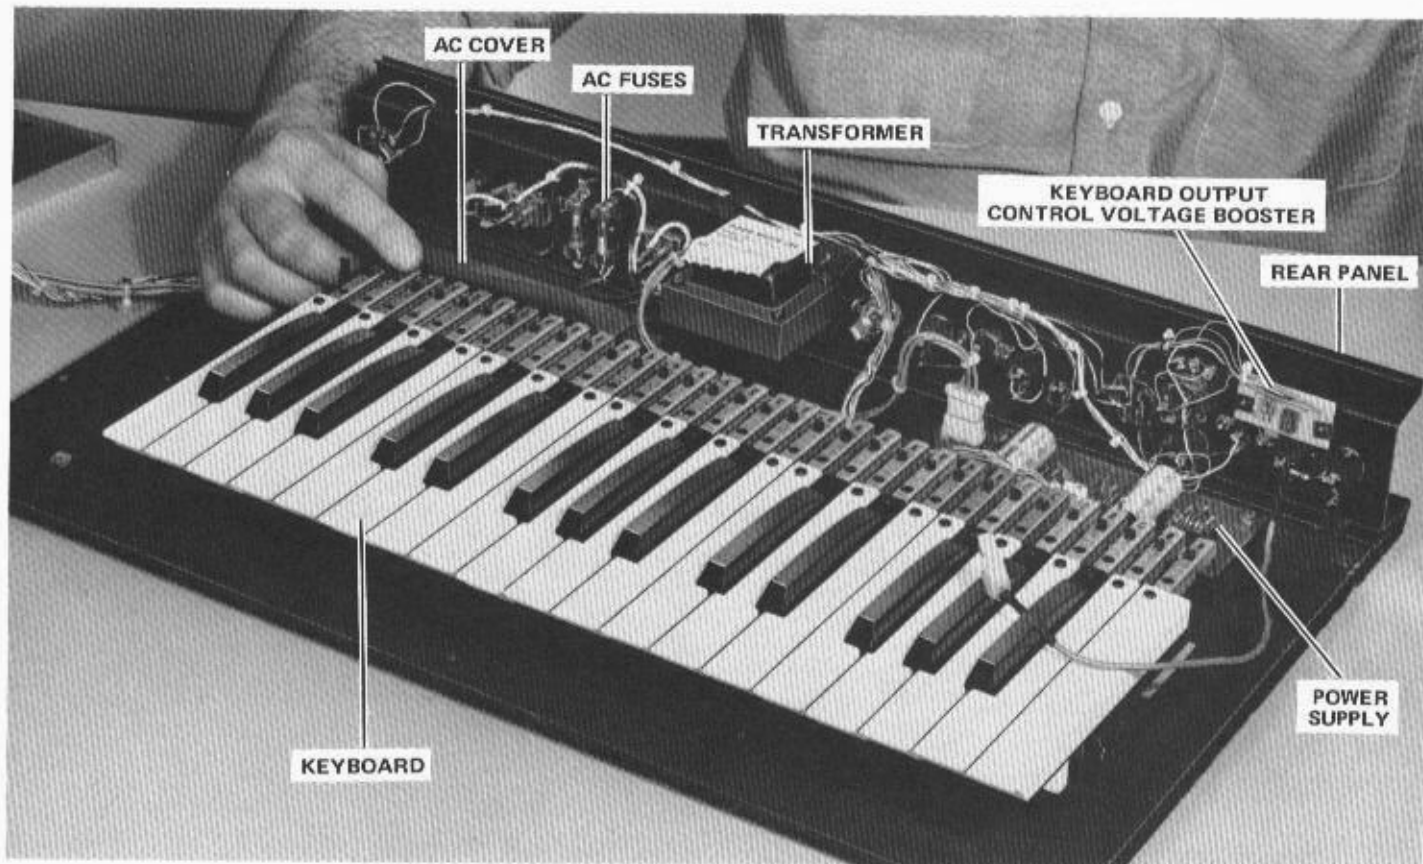

FIGURE 3-4 BASE ASSEMBLY
c) The sections that can be serviced at this first stage of disassembly are shown in Figure 3-4. These include the AC fuses, transformer, power supply, keyboard control-out board, keyboard and rear panel pots, switches and jacks.